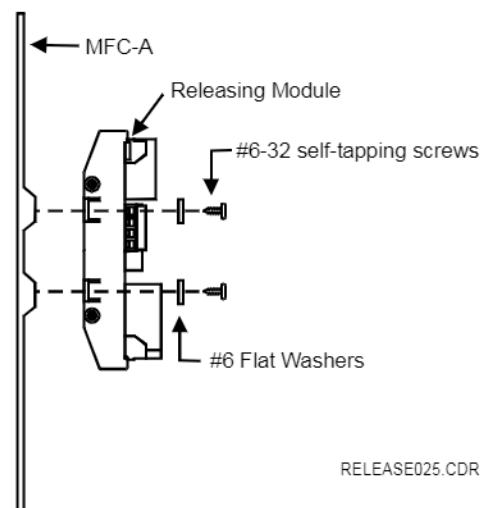
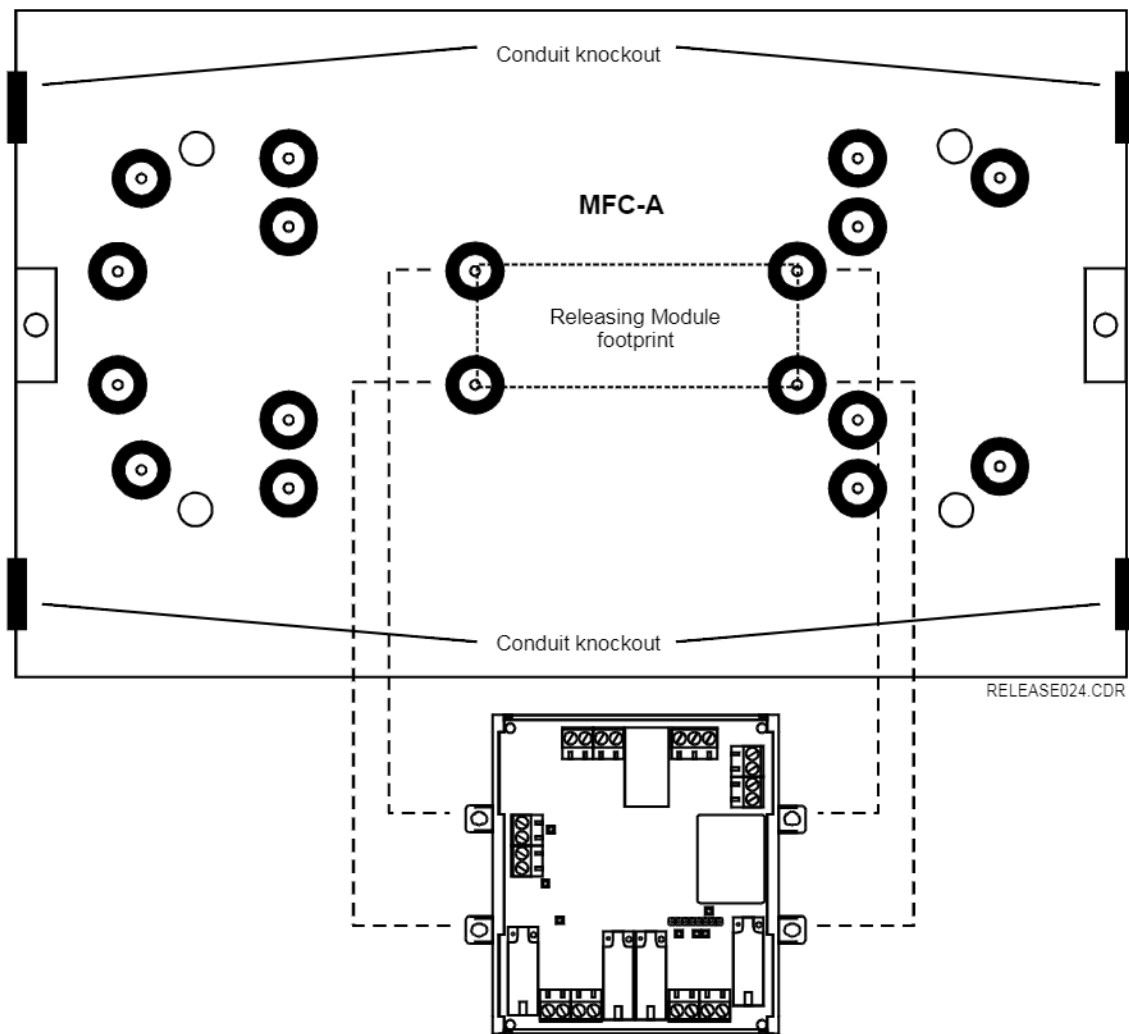

Figure 1-2: Mounting the SIGA-REL
Figure 1-3: MFC-A/SIGA-REL footprint
- 1 Align the SIGA-REL to the designated mounting holes in the MFC-A (Figure 1-2 and Figure 1-3).